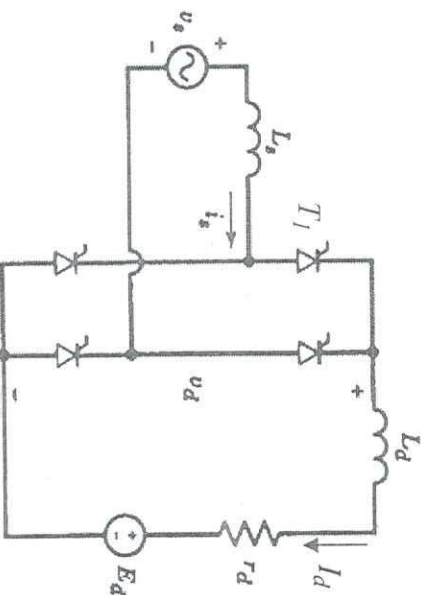

Figure Q1: Single-phase thyristor converter with a dc motor load
- b) The thyristor converter shown in Figure Q1 is connected to a single-phase 230 V, 50 Hz supply. The dc side of the converter is connected to an armature of a separately excited dc motor. The armature resistance is $r_d = 0.5 \Omega$. Assume that the L_d is large enough to have a constant dc current at the dc side. Also, assume that the $L_s = 0$ and the thyristors in the circuit have ideal characteristics.